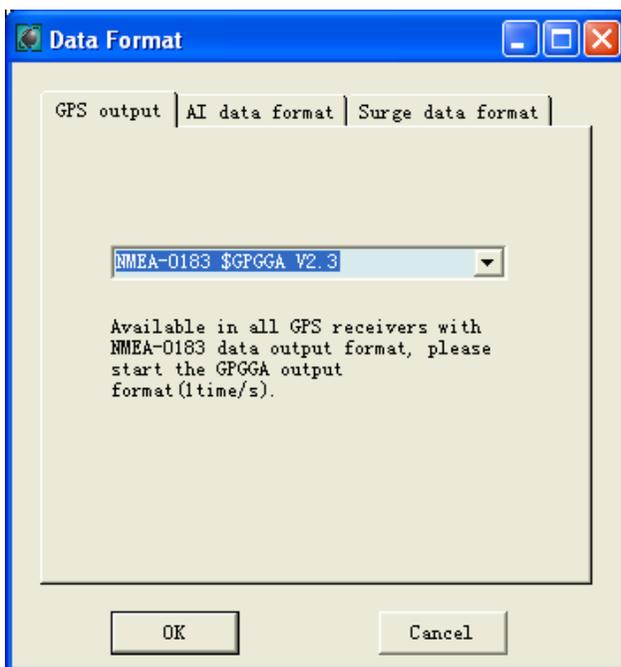

Figure 2-19
3. enter “Setup” -> “Data Format” in survey interface to select positioning data format, as indicated in Figure 2-19: